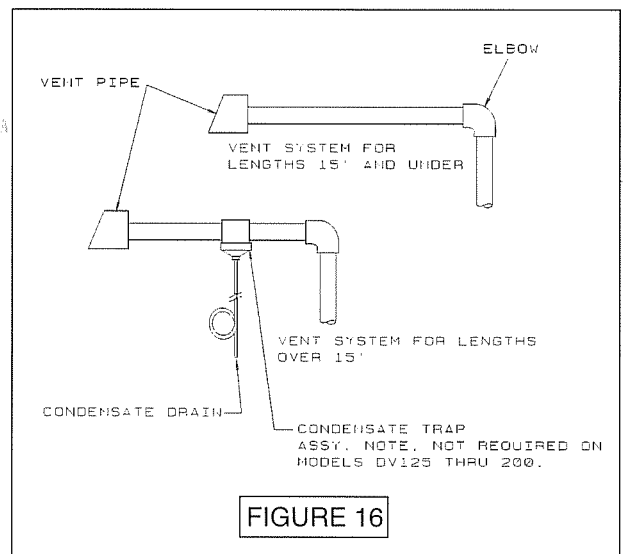

FIGURE 16
F. No portion of the vent pipe should have dips or sags where condensate could collect, see figure 16 below right for a typical vent system.